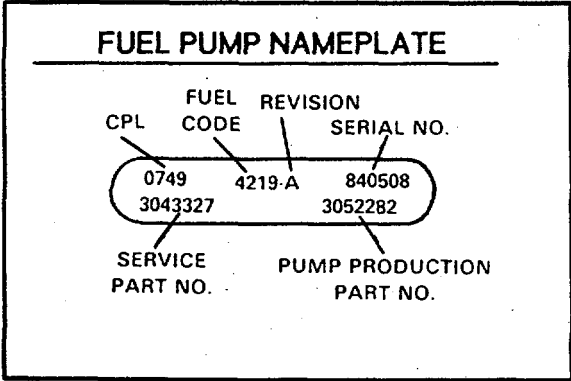

FIGURE 1-4. Fuel Pump Dataplate.
c. Fuel Pump Dataplate (Nameplate). The fuel pump dataplate is located on the top of the fuel pump. It provides information for fuel pump calibration (Figure 1-4).